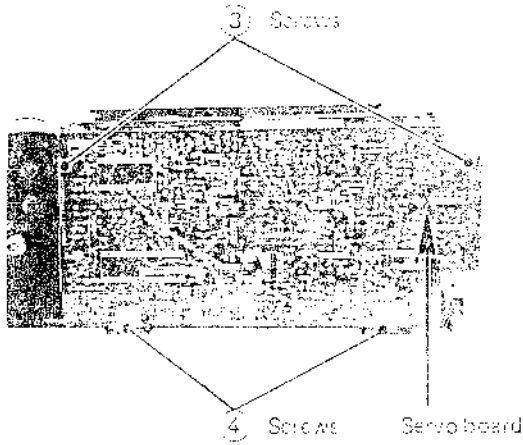

Fig. 3-13
1. Take out 2 screws ③ shown in Fig. 3-13 and disconnect the connectors.
2. Take out 2 screws ④ shown in Fig. 3-13 and carefully disengage the SERVO board from the holders to remove.